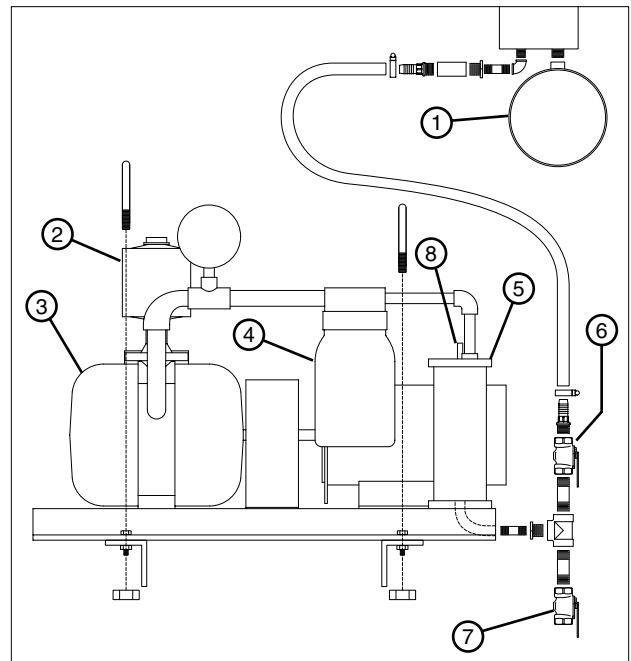

Figure 69-2 1. Suction Inlet Pipe 5. Water Trap
2. Depress the manual plunger on top of the water trap to allow water to draw-down. See Figure 69-2.
3. If necessary, open the drain cock valve for full drainage. See Figure 69-2.